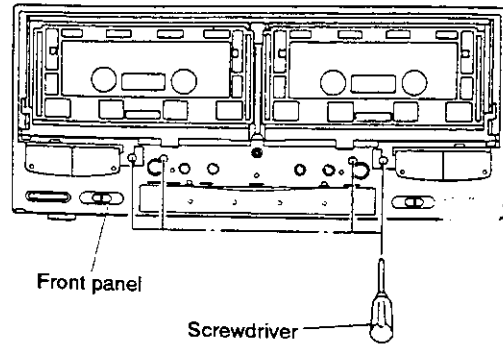

Fig. 7-6
4. Insert the screwdriver in each of the four holes on the front panel, and make azimuth adjustment. (See Fig. 7-6.)